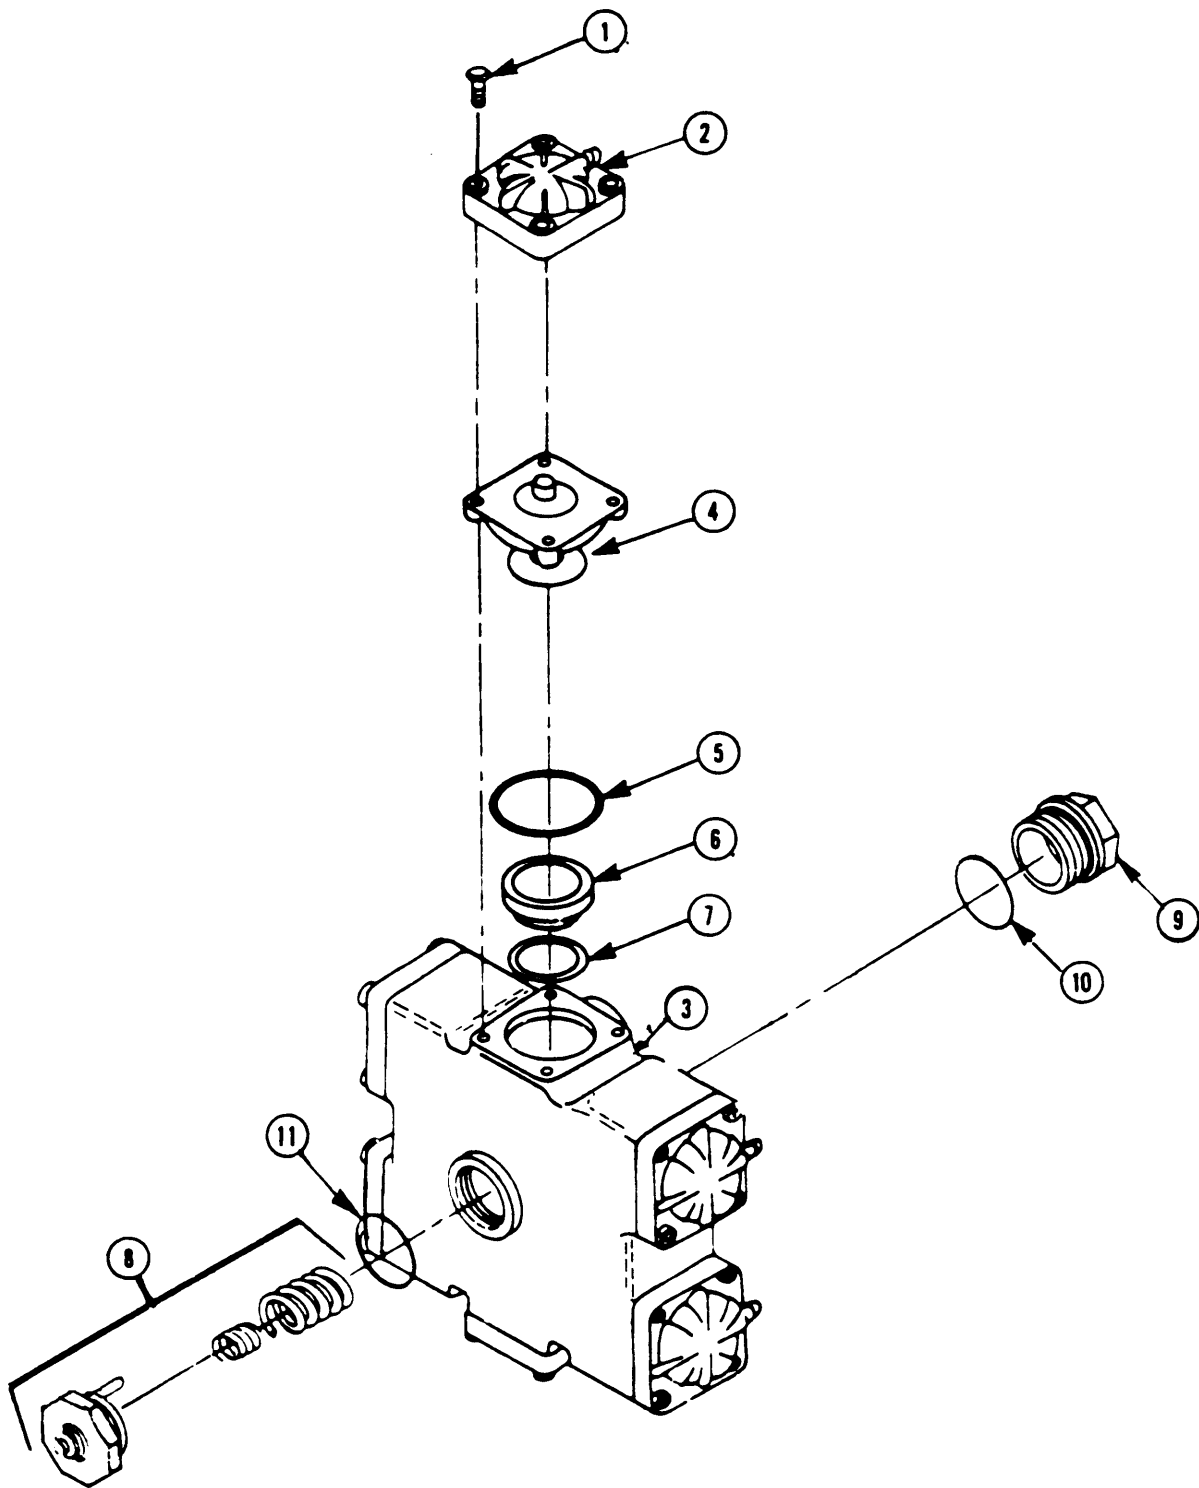

Figure 3-41. Multimedia Filter Control Valve Assembly
- (18) Remove nipple (19) from tee (16)
- (19) Remove adapter (17) from tee (16).
- (20) Remove elbow (18) from tee (16).
- (21) Remove nipple (21) from strainer (20).
- (22) Remove pipe (23) with attached tee (24), bushing (22), and elbow (25),
- (23) Remove bushing (22) from tee (24).
- (24) Remove three elbows (25) and nipples (25A) from valve assembly (31).
- (25) Remove flange (26) from nipple (27) and nipple (27) from elbow (28).
- (26) Remove elbow (28) from nipple (29) and remove nipple (29) from valve assembly (31).
- (27) Remove pipe assembly (30) from valve assembly (31).
f. Disassembly, Multimedia Filter Control Valve Assembly. (Figure 3-41)